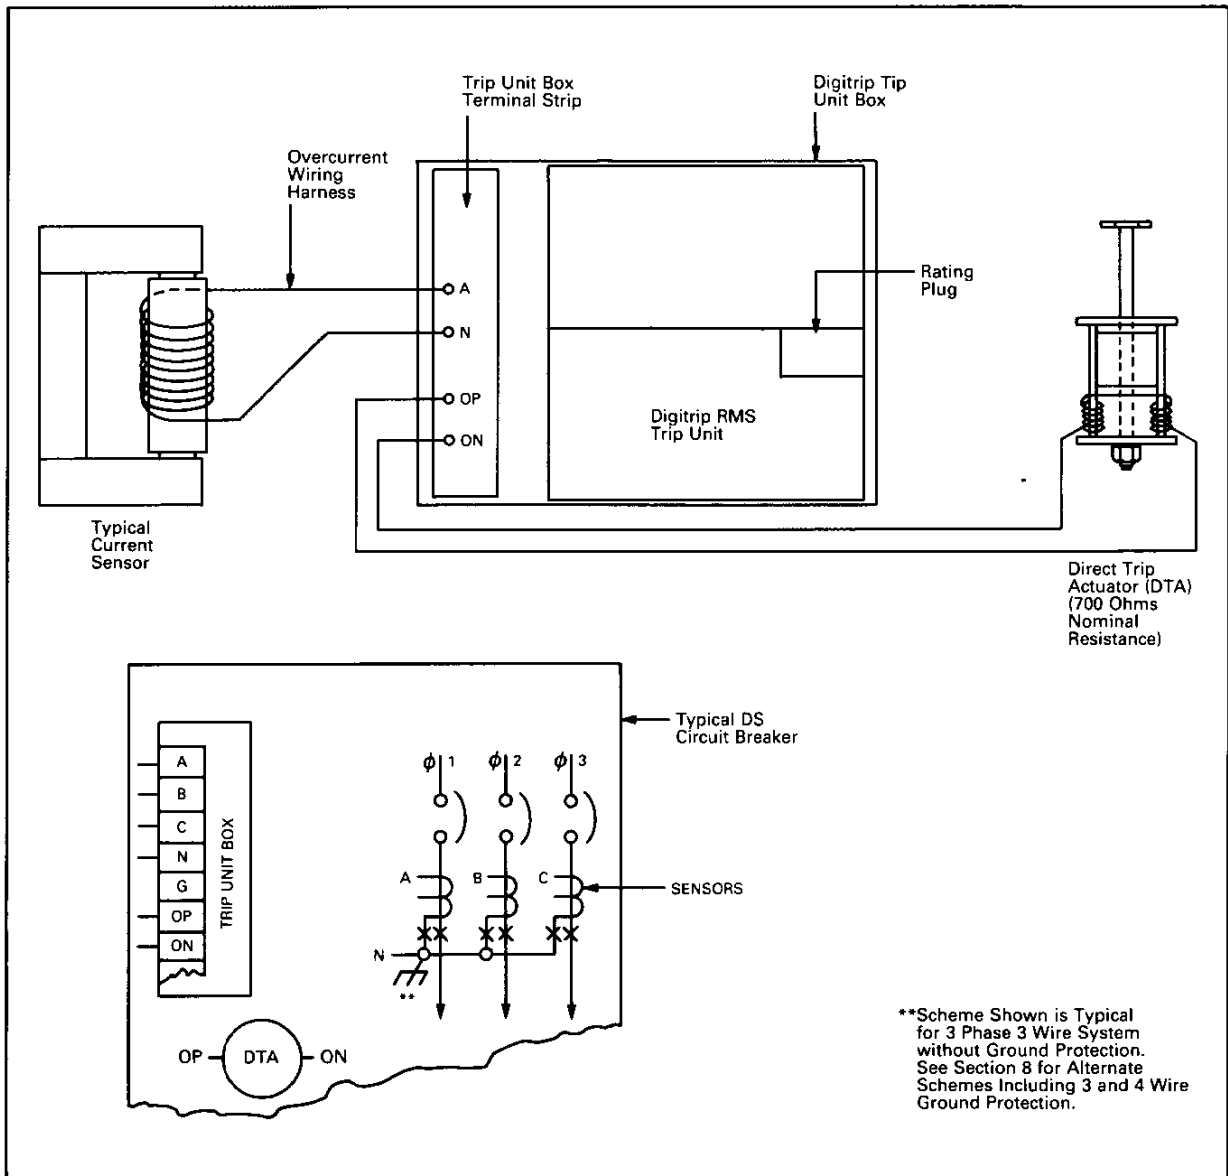

Fig. 3-3. Simplified Digitrip RMS Trip System
All Digitrip retrofit kits provide basic overcurrent protection including a selected combination of Long Time (L), Short Time (S), Instantaneous (I), and Ground Fault Time (G) Delay trip functions. A simplified Digitrip RMS Trip System is shown in Fig. 3-3. Five major components comprise the Digitrip RMS Trip System; the Current Sensors, Digitrip Trip Unit Box, Digitrip Trip Unit, Rating Plug, and the Direct Trip Actuator (DTA). These components are interconnected by use of the existing overcurrent wiring harness to provide the Digitrip RMS Trip System.